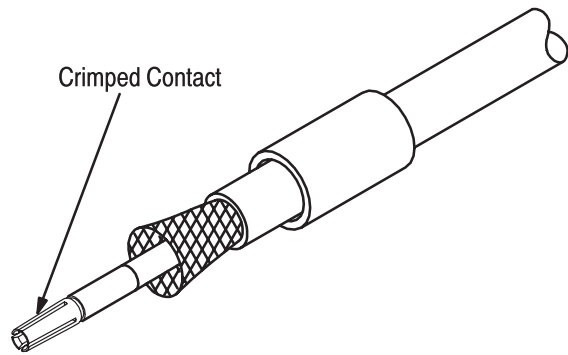

Figure 4
2. Position the contact onto the center conductor; then crimp the contact using Hand Tool 354940-1 (fitted with the appropriate die assembly). See Figure 4.